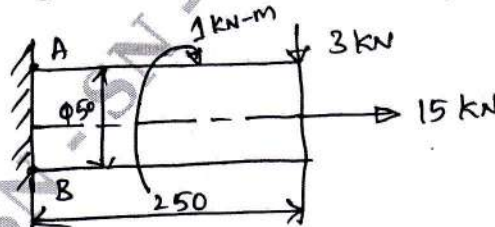

Fig.Q2(b)
- b. A circular rod shaft of diameter of 50mm is subjected to load as shown in Fig.Q2(b). Determine the nature and magnitude of stresses at the critical points A and B.